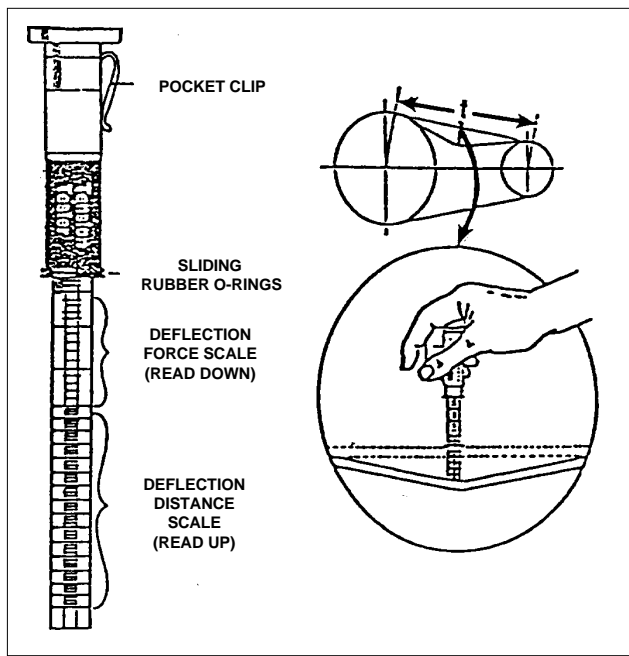

Fig. 5-3 Belt Tension Gauge
Step 4) At the center of the span, perpendicular to the belt, apply pressure to the outer surface of the belt with a belt tension gauge (refer to **Fig. 5-3, Belt Tension Gauge**). Force the belt to the predetermined deflection (refer to **Step 2** above). Record the reading on the belt tension gauge and compare to the chart below. The deflection force reading should be within the minimum and maximum values shown. Adjust belt(s) accordingly. New belts should be tensioned to the values listed under "Initial Install".